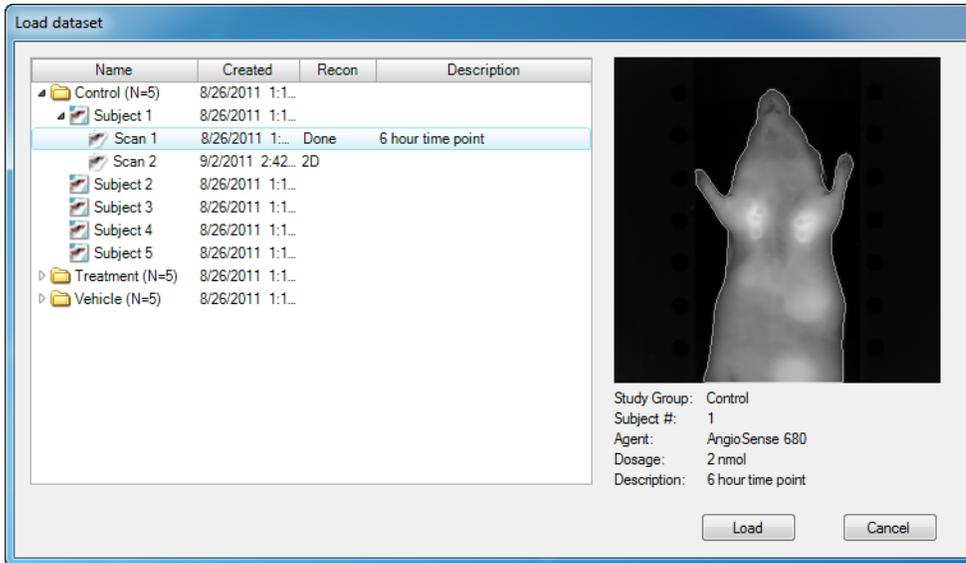

Figure 7-2. Load Dataset Window
- On the **Analysis** tab, click the **Add** button () under the **Dataset Selection** list. The **Load Dataset** window, shown in Figure 7-2, opens. Highlight the desired scan or select multiple scans using Ctrl or Shift. Click the **Load** button to open the selected scans. Any scans that were previously open in the Analysis tab remain open.